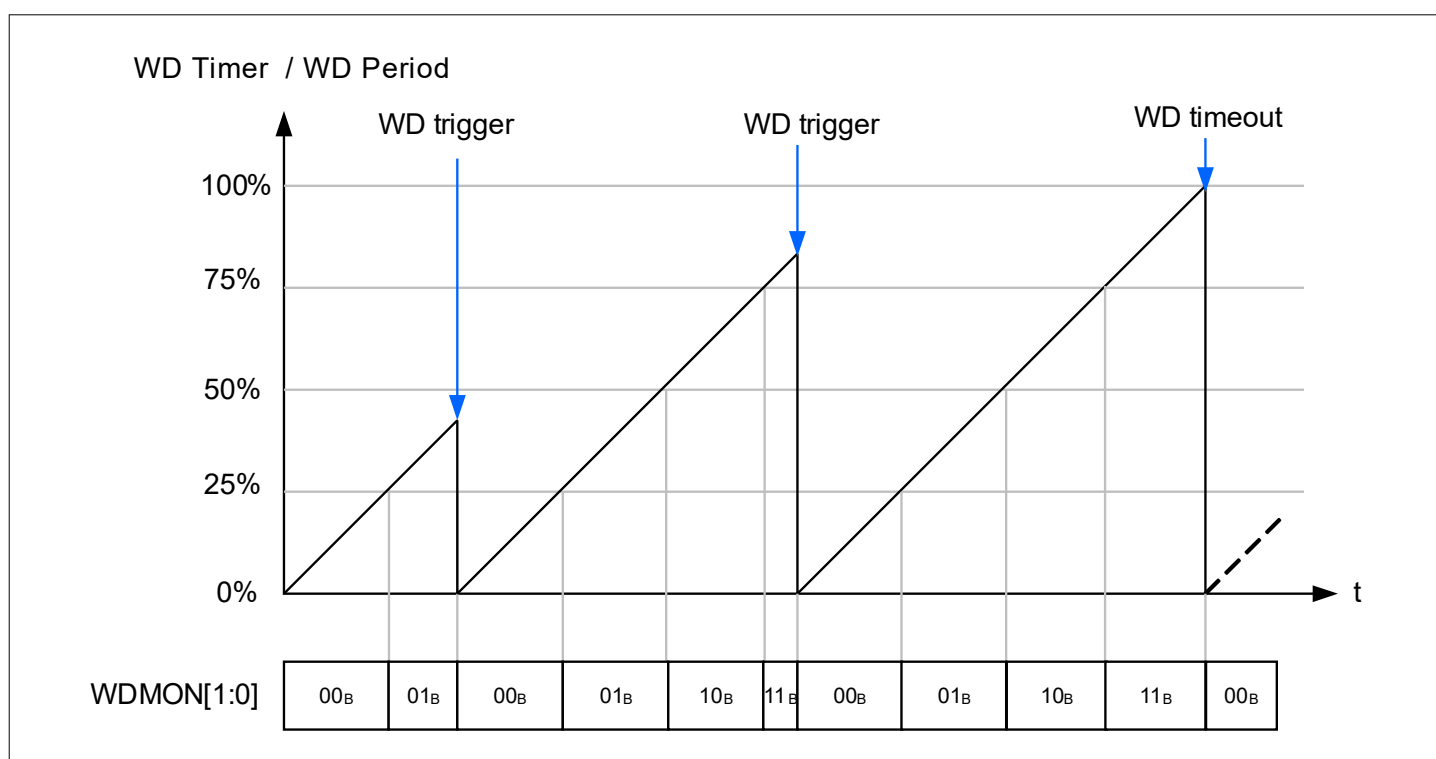

Figure 38 Example of watchdog monitoring and watchdog timeout
- The watchdog trigger bit is not served within the watchdog period (watchdog timeout event). See Figure 38^{13\)}.
The status bits `WDMON[1:0]` report the relative position of the watchdog timer to the watchdog period. Refer to Table 21 and Figure 38. This allows the detection of a potential latent failure associated to the watchdog timer: the microcontroller can indeed verify that the watchdog timer is running.